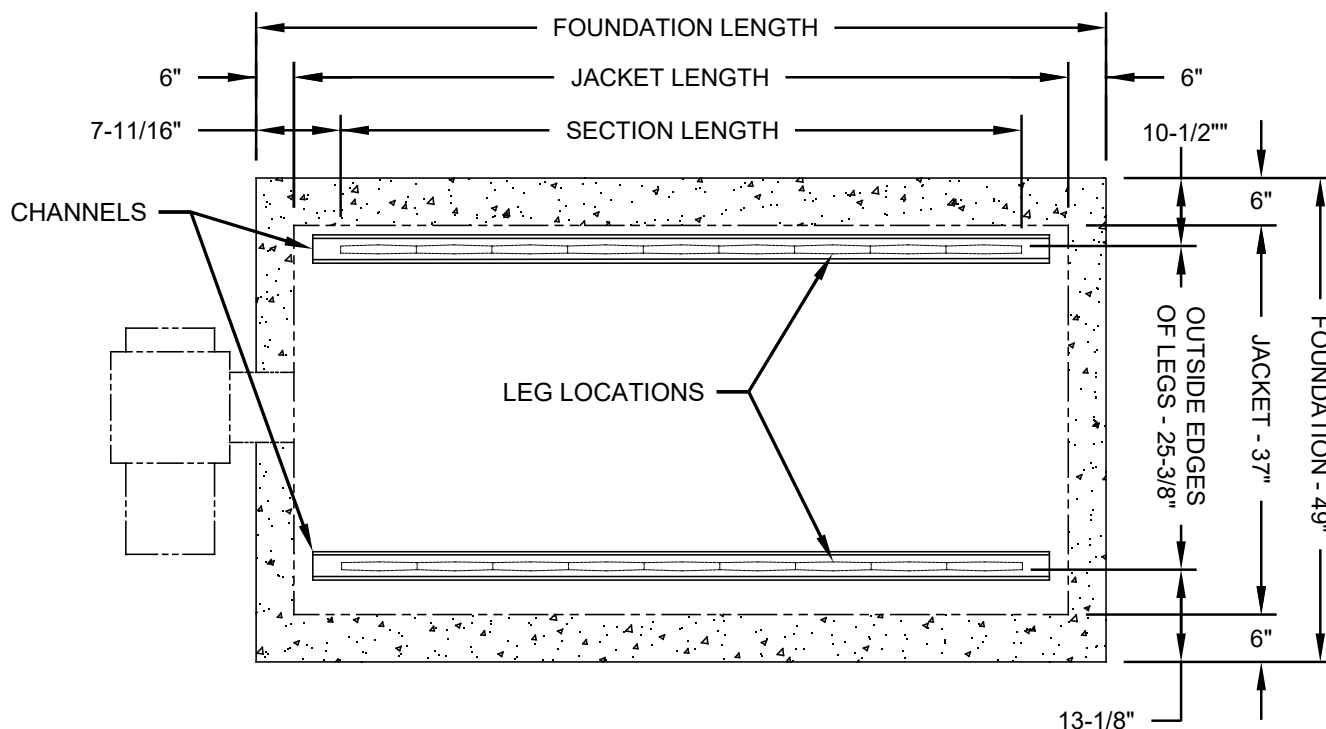

Figure 1.4: Foundation Layout
1. If the boiler room floor is not level or if additional structural support is needed, provide a good, level foundation for the boiler with the minimum dimensions given in Table 1.1. The flooring and structural support system must be suitable for the operating weight of the boiler and any connected piping. Place the Steel Channels on the foundation as shown in Figure 1.4.